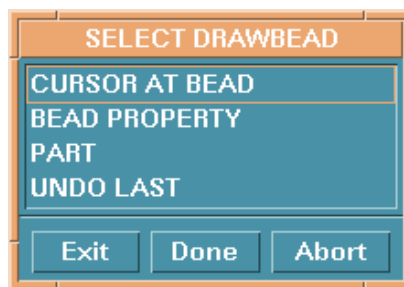

Figure 5.3.4 Select Draw Bead
Select DELETE in the DRAW BEAD dialog window. The SELECT DRAW BEAD dialog window (see Figure 5.3.4) provides the following operations for deleting the draw bead:
- After selecting the property, the SELECT DRAW BEAD dialog window (Figure 5.3.4) is displayed. To select draw beads, see Section 5.3.3.